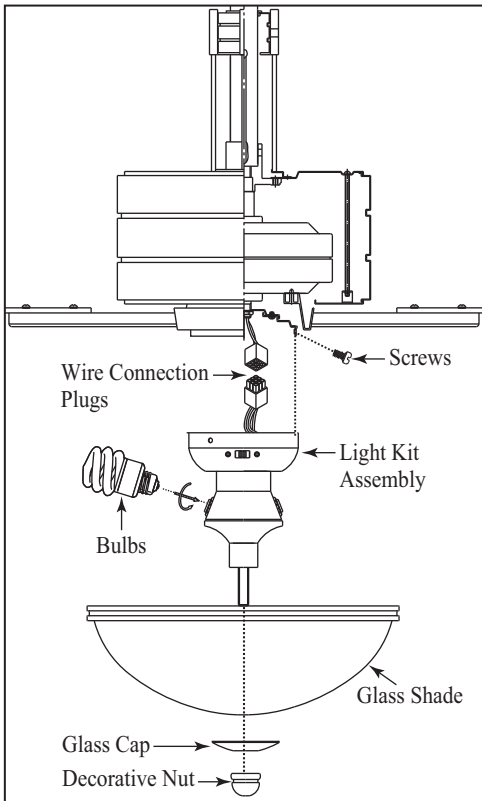

Figure 18
2. Carefully push all wires back into the switch housing, then install the light kit assembly onto the mounting plate with 3 screws provided. Be sure to tighten all screws. (Fig. 18)
3. Install 2 x 13 Watt compact fluorescent bulbs (included). **NOTE:** CFL bulbs are **NOT** dimmable. (Fig. 18)
4. Place glass shade over the light kit and secure it with the glass cap and decorative nut provided. **DO NOT OVER TIGHTEN.** (Fig. 18)